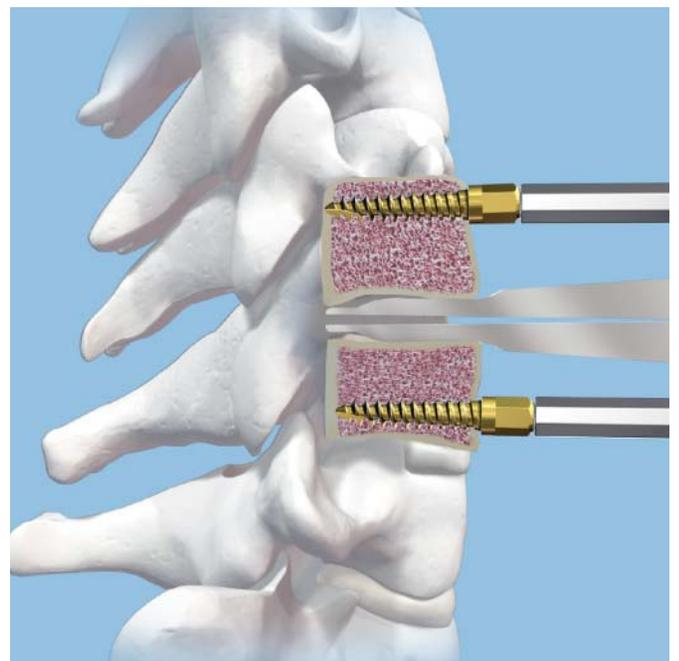

Figure 15
- ① Insert the vertebral distractor to the posterior aspect of the disc space under lateral fluoroscopy. Ensure the distractor tips reach the posterior margin of the vertebral bodies to avoid penetration of the vertebral end plates (Figure 15). Manually distract the space with the distractor. Adjust the retainer to maintain the distraction achieved with the distractor. Remove the distractor and complete the discectomy, decompression and remobilization as indicated.